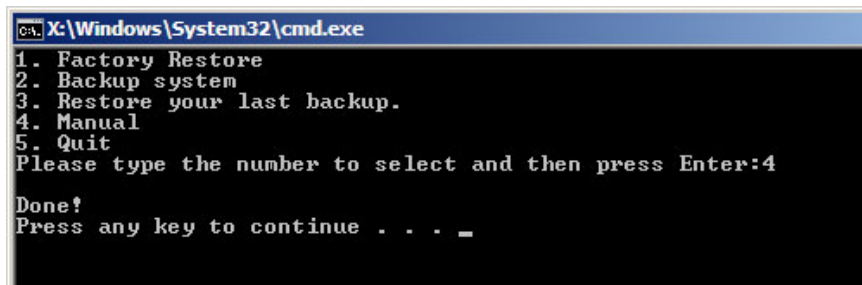

Figure C-18: Press Any Key to Continue
Step 11: When the image creation completes, a screen prompts as shown in **Figure C-18**.